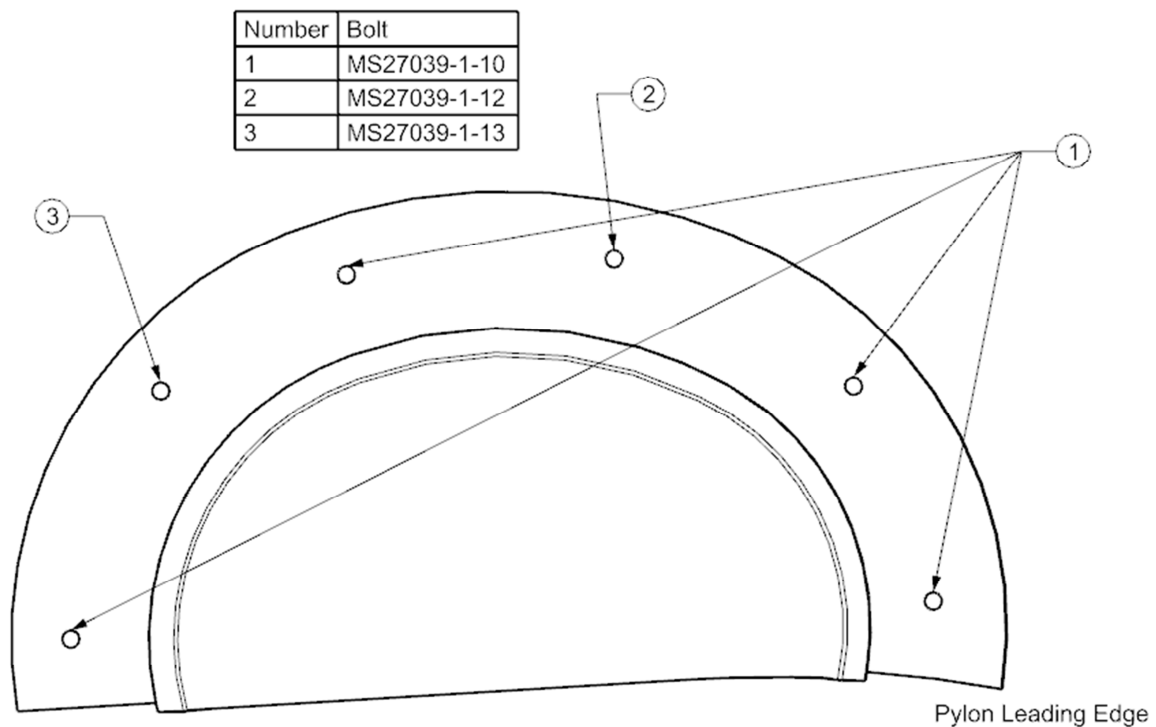

Figure 2-3: Fuselage Pylon Forward Lug Cover Fastener Placement
7. Attach the forward fuselage lug covers (UWB-ICE-04-501) to the fuselage pylons using MS27039-1-13, MS27039-1-12, and MS27039-1-10 fasteners as per Figure 2-3.
7. Remove the center ratchets straps and related eyebolts, and install the outermost bolts on each of UWB-ICE-07-501, UWB-ICE-07-502, per Figure 2-3, using torque values from Table 1-1.
11. Remove the outboard ratchets straps and related eyebolt, and install the outboard bolt on UWB-ICE-06-502, per Figure 2-3, using torque values from Table 1-1.
15. Remove the inboard ratchets straps and related eyebolts, and install the inboard bolt on UWB-ICE-08-501 per Figure 2-3, using torque values from Table 1-1.